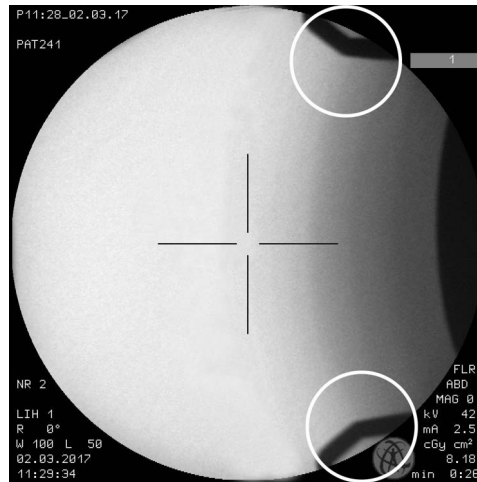

Fig. 11-13 Correct calibration
- ⇒ If both calibration markers are visible at the edges of the X-ray image (**FIG. 11-13**), the system is correctly adjusted.